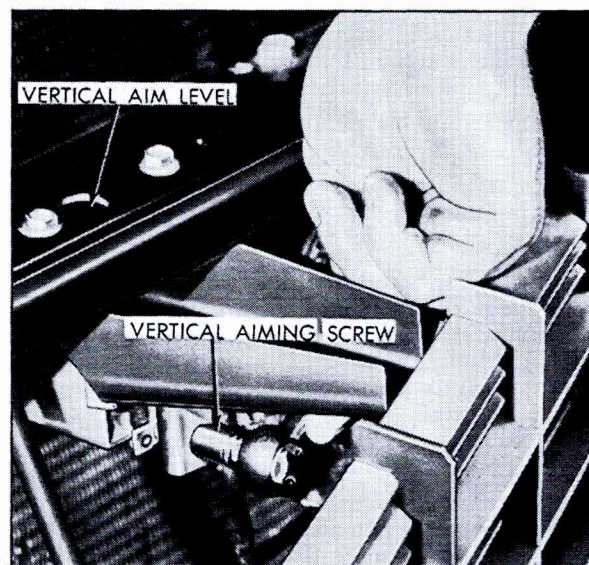

Fig. 15-39 Vertical Aim Adjustment
5. Adjust vertical aiming screw at front of phototube unit until bubble is centered in level, Fig. 15-39.